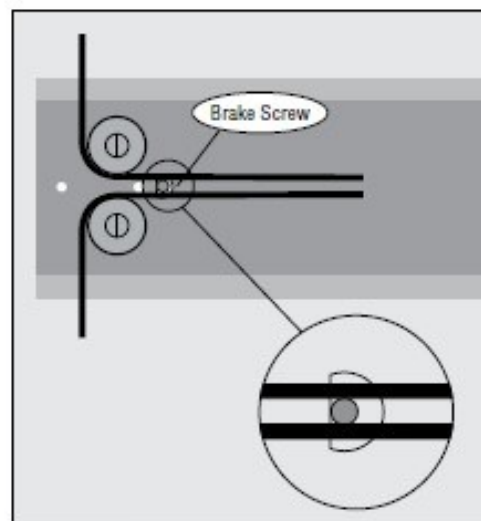

Figure 9
- 4** Grasp either wire on left side, pass around straightedge blade pulley and brake screw as shown in wiring **Figure 9** and pass it around rear pulley (**F**) in upper left corner of board. Connect to spring at top (**A**).
- 6** Pass lower left and lower right wires around straightedge blade pulleys and brake screws as shown in wiring **Figure 9**.